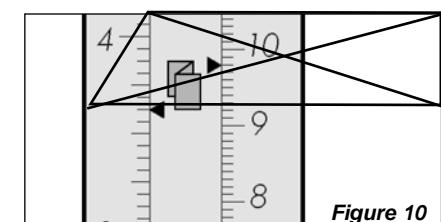

Figure 10
- Move the Paper stops to the corresponding arrows next to the desired icons. **8 1/2" X 11" (yellow icons) paper uses the inch scale on the left side of the rulers. A4 (blue icons) paper uses the metric scale on the right side of the rulers (see figure 10).**